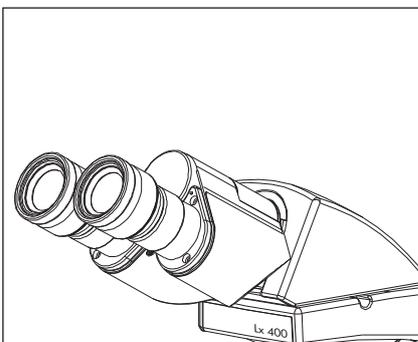

Fig.14
2. Insert 10x eyepieces into the ocular sleeve and tighten the clamping screw (1) using allen wrench 1.2mm. See figure 14.